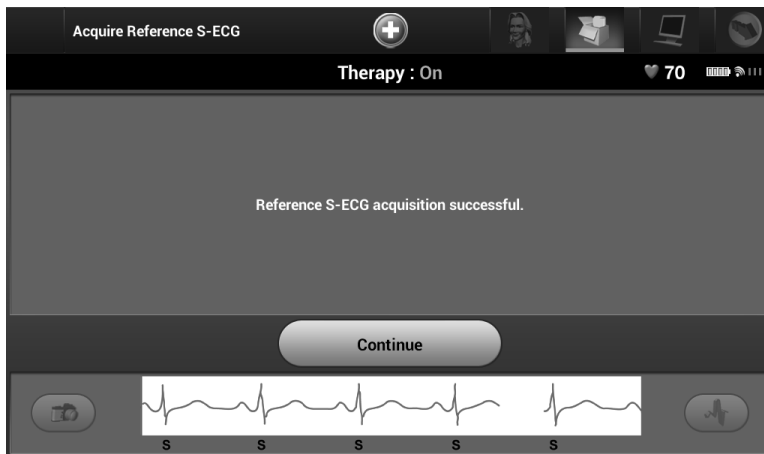

Figure 47: *Captured Reference S-ECG confirmation*
2. The Acquire Reference S-ECG process is automatically enabled during the Manual Setup Process. Select the Continue button to acquire a reference S-ECG. A confirmation screen will appear when the captured reference S-ECG is acquired (Figure 47).